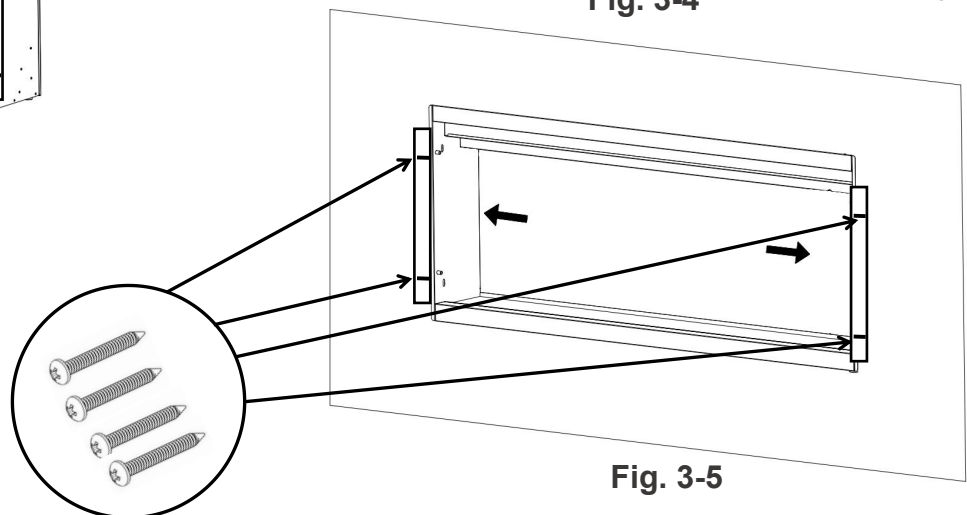

Fig. 3-5
- F. Optionally, secure the fireplace by installing 4 wood screws through the mounting holes on the front (Fig. 3-5)